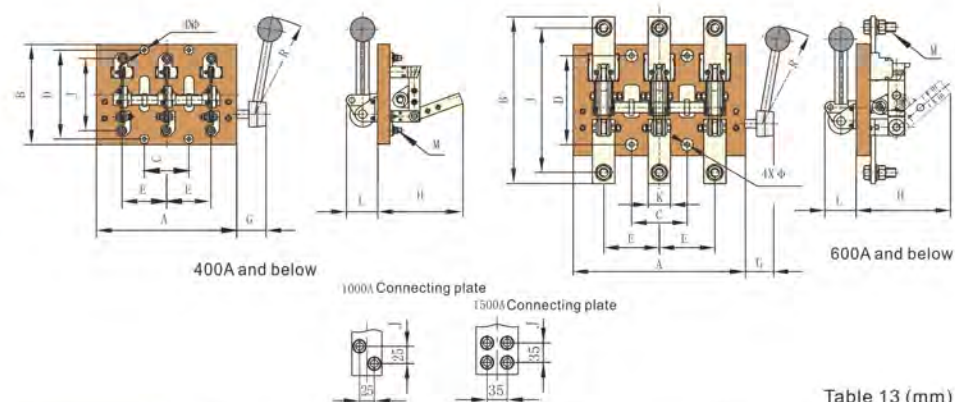

Figure 12
5.11 HD14 overall and installation dimension (see Figure 12 and Table 13)